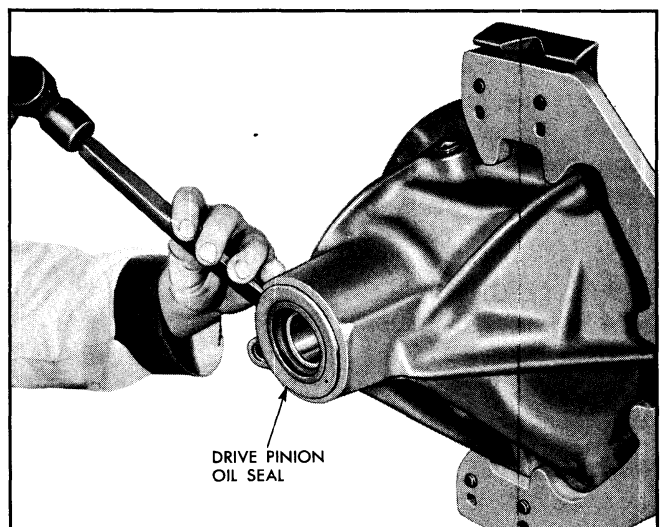

Fig. 4-39 Removing Pinion Oil Seal
15. Using chisel or other suitable tool, remove pinion oil seal from bore in carrier (Fig. 4-39).